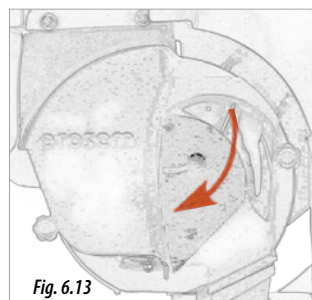

Fig. 6.13
3. Turn manually a driving wheel in the forward direction, loosen the inspection knob (Fig. 6.13) to check the seed distribution inside the seed disc.